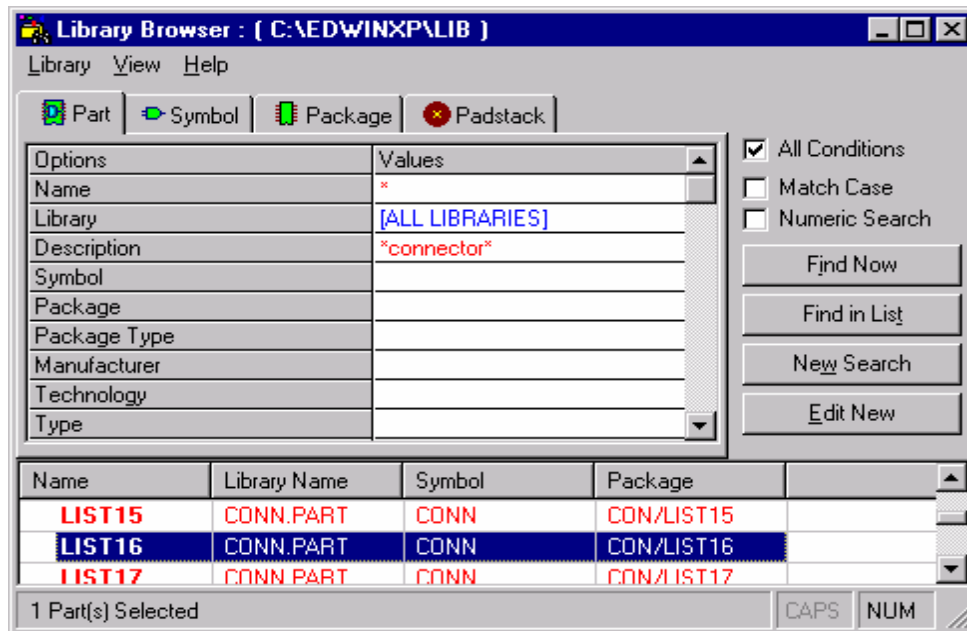

Fig. 4.7
5. Half adder needs to make connections to a voltage source, Ground and signal generators for the two inputs. These are external sources (which will not be housed on the PCB) and hence connections to them can be shown with the help of connectors. Take Library Browser to get the pop up window as shown in Fig. 4.7 and type '*' in the Name field and '*connector*' in the Description field as shown below and press Find Now. The Library Browser will display all the components in the Library with the word connector in its Description (which is entered at the time of Part creation). In the list of parts that appear, select LIST6 since we 6 input output connections.